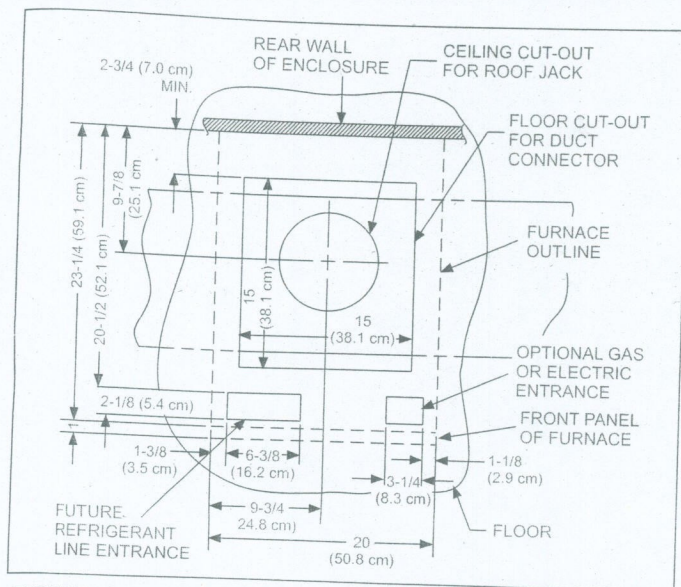

FIGURE 7: Recommended Floor Cut-out
1. Make floor cut out as shown in Figure 7.